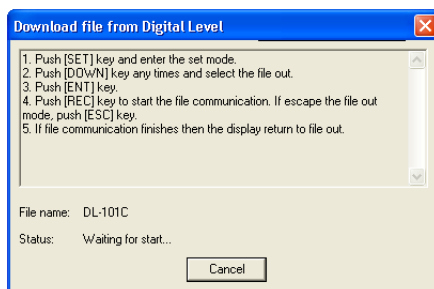

Figure 3-49. Topcon Digital Level Instructions – Preparing for Import
7. Follow the on-screen steps to prepare the digital level (Figure 3-49). Select the desired file in the Digital Level to download to the computer.
8. Follow the on-screen steps to prepare the digital level (Figure 3-49). Select the desired file in the Digital Level to download to the computer.